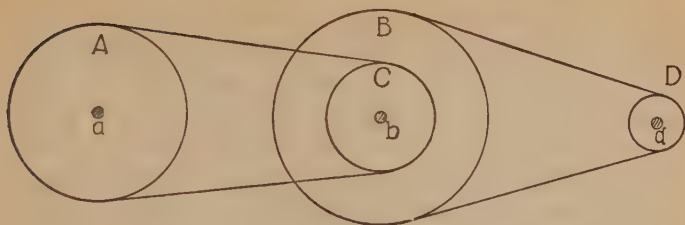

Figure 2
Figure 2 represents a train of four pulleys connected by belts. Pulleys *B* and *C* are fastened to the same
It is obvious that regardless of which pulley is the driver or the driven pulley all of the equations from (1) on are true. In figure 2, the driver shaft might be b, making both B and C driver pulleys and A and D driven pulleys. Nevertheless, equations (11) and (12) would still be true. However, it is convenient in thinking about a pulley train to consider one of the pulleys
9. Prove that in any train of pulleys if the size of any driver pulley equals the size of any driven pulley, these two pulleys have no effect on the speed of the rest of the pulleys that come after them in the train. Refer to formula (12).
10. If the pulleys in figure 2 have the following diameters:  $A$  20",  $B$  8",  $C$  24" and  $D$  6", and  $A$  makes 480 R.P.M., what will be the speed of  $D$ ?
12. Work out a formula for the diameter of  $C$ , figure 2, and then use it in solving this problem: The jack shaft under a weave room makes 250 R.P.M. and carries